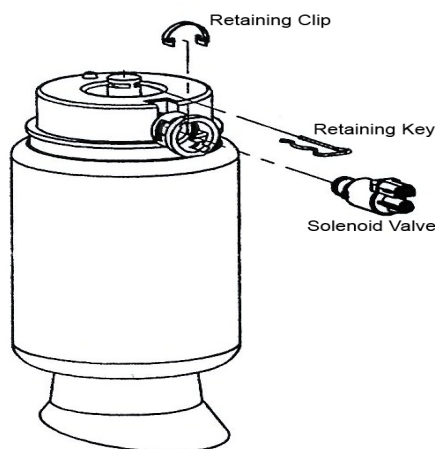

FIG 1
11. (FIG. 1) Disconnect the electrical connector at the top of the spring. The air line is removed by pushing on the small colored outer ring and pulling on the line simultaneously. To release the air from the air springs, remove clip from solenoid clip and rotate the solenoid valves counter-clockwise to the first stop. This will allow the air in the spring and system to slowly escape. (Consult Ford Owners Manual if necessary).
12. (FIG. 1) Rotate the solenoid valve to the second stop and the air will escape quickly. All air must be bled from system before removing solenoid. Rotate the solenoid to the third stop. The solenoid valve can be then be removed from the air spring housing. The line and connector should be placed in a poly bag and sealed with electrical tape to keep moisture out – for use if the air system is ever to be reinstalled.